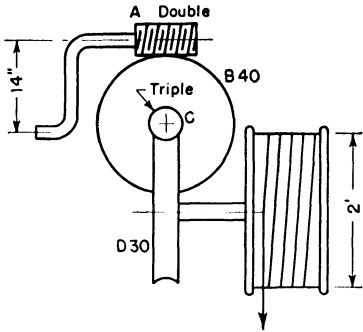

Fig. P 11.7
11.7. Determine the mechanical advantage of the cable-winding mechanism shown in Fig. P 11.7.